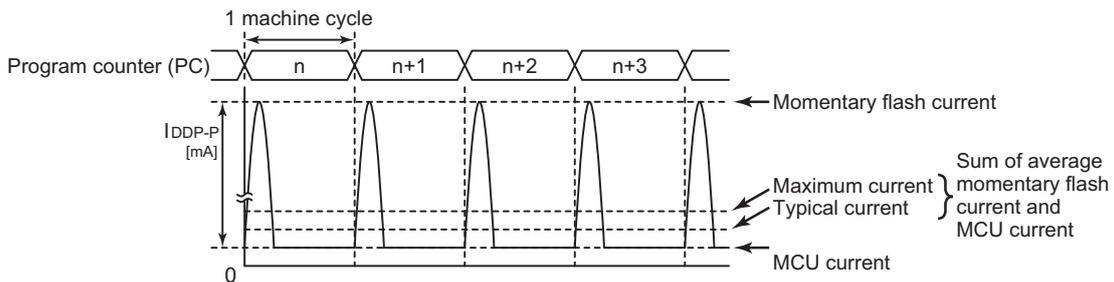

Figure 24-4 Intermittent Operation of Flash Memory
- Note 7: When a program operates in the flash memory or when data is being read from the flash memory, the flash memory operates intermittently, and a peak current flows, as shown in Figure 24-4. In this case, the supply current I_{DD} (in NORMAL1, NORMAL2 and SLOW1 modes) is defined as the sum of the average peak current and MCU current.